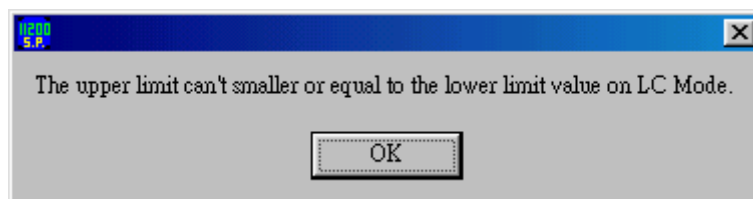

Figure 4-9 Message for Incorrect Upper Limit
- Value of limit: It sets the upper/lower comparator value, where the upper limit cannot equal to or be smaller than the lower limit. A message as Figure 4-9 shows will prompt when it happens.